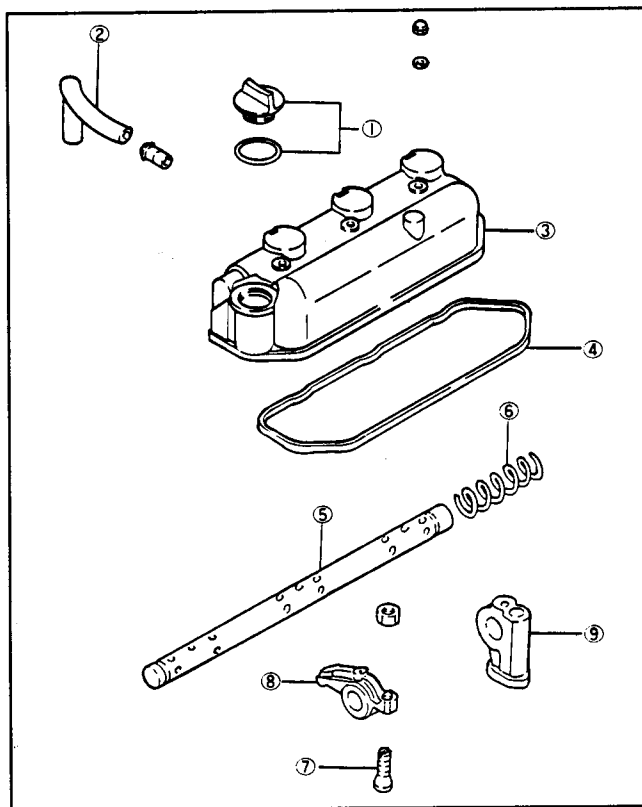

Figure 79
1. Remove the snap ring on each end of the rocker shaft. Remove the rocker arm stay bolts. Remove rocker arm stays, spring and rocker arms from the shaft (Fig. 79).